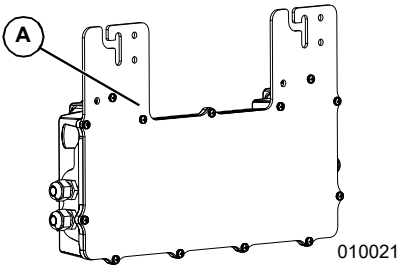

Figure 2-1. Serial Number Location
See Figure 2-1. Serial number tag (A) includes a removable layer that can be peeled off leaving the underlying label in place. Adhere the removable layer to the inside cover of this manual and record the information from this tag in Table 1 : PV Link and SnapRS Important Information.